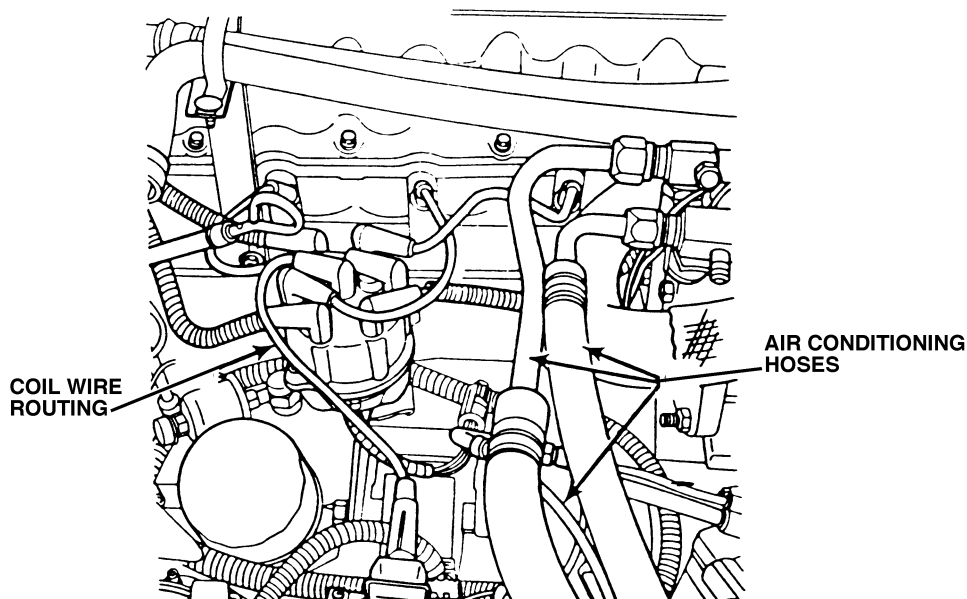

Figure 12.
28. Make sure the coil secondary wire is routed away from the air conditioning lines, and any other object. Position the coil wire as shown (Figure 12).